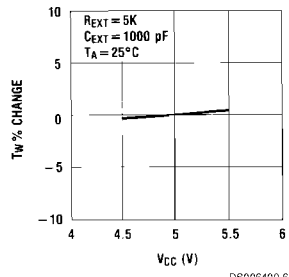

FIGURE 5.
7. Output pulse width versus V_{CC} and temperatures: Figure 5 depicts the relationship between pulse width variation versus V_{CC} . Figure 6 depicts pulse width variation versus temperatures.
9. Under any operating condition C_X and R_X must be kept as close to the one-shot device pins as possible to minimize stray capacitance, to reduce noise pick-up, and to reduce I-R and Ldi/dt voltage developed along their connecting paths. If the lead length from C_X to pins (6) and (7) or pins (14) and (15) is greater than 3 cm, for example, the output pulse width might be quite different from values predicted from the appropriate equations. A non-inductive and low capacitive path is necessary to ensure complete discharge of C_X in each cycle of its operation so that the output pulse width will be accurate.